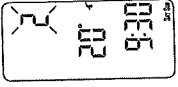

Fig. 25
- Press the **PROG** button to move to the next preset time and temperature (Event 2) (Fig. 25).